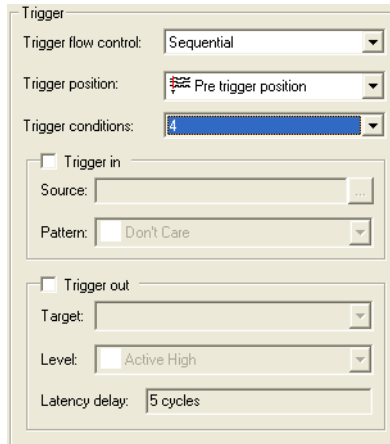

Figure 13. Set trigger levels to 4.
2. In the Signal Configuration pane, select 4 from Trigger Conditions dropdown menu as in Figure 13. This modifies the node list window by creating three new Trigger Conditions columns.